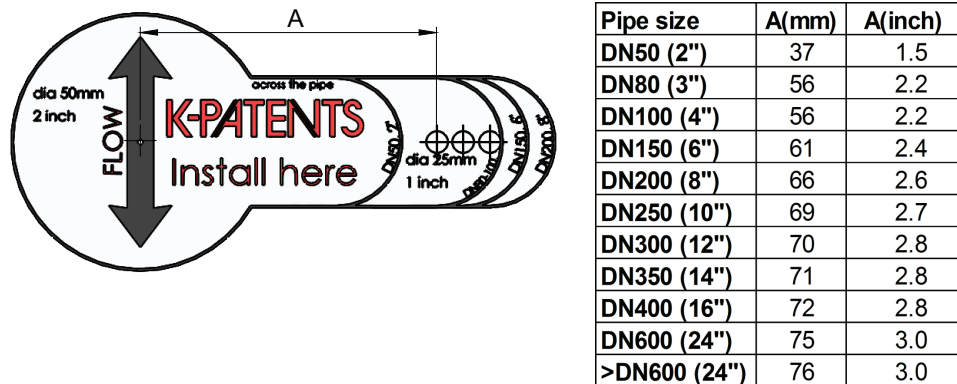

Figure 5 Installation guide
3. Drill two holes – 50 mm (2") and 25 mm (1") – as guided by figure 5.